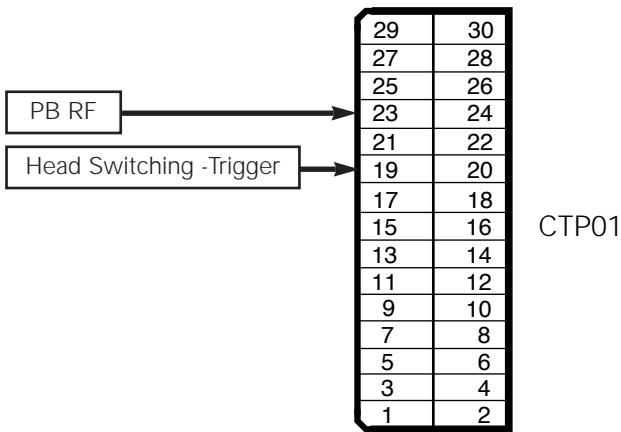

Fig. 1
3. The location of test point (See Fig.1)